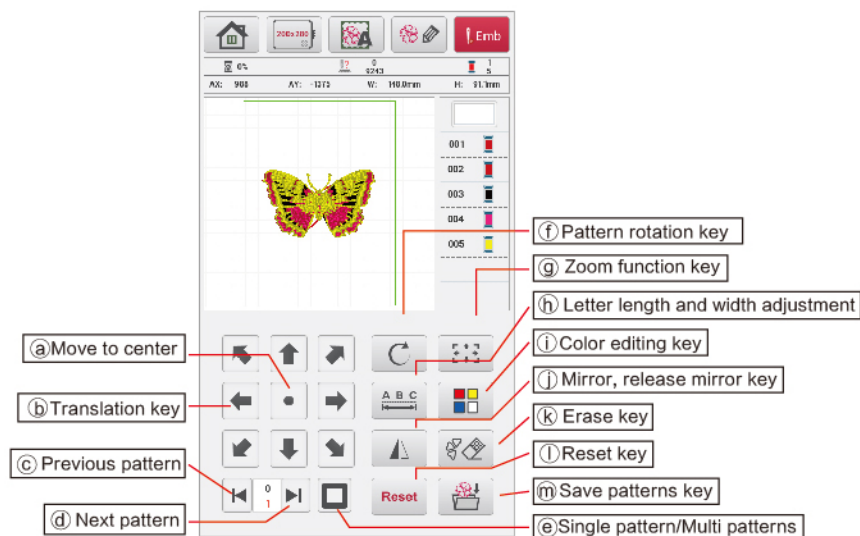

Figure 2
(3) Click d. pattern editing key or OK key to enter Figure 2 interface. Can also click e. embroidery confirmation key to start embroidery directly
(4) The user can translate, rotate, mirror, zoom and simulate editing selected pattern as needed. Then click b. to select the hoop with appropriate size as shown in Figure a.b.c